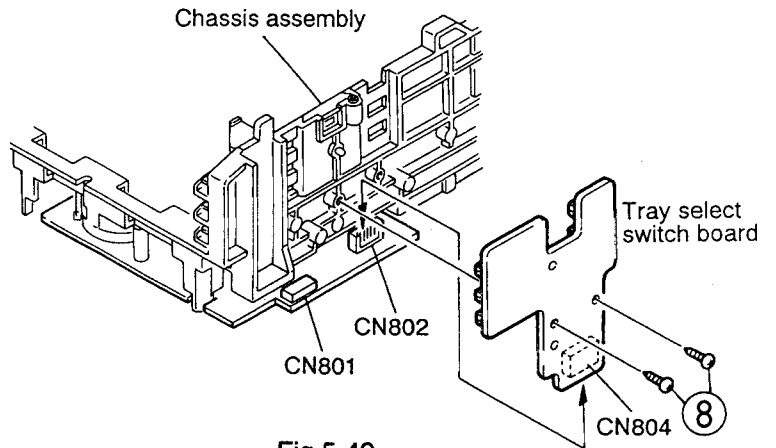

Fig.5-49
3. Remove the two screws ⑧ retaining the tray select switch board (See Fig. 5-49).